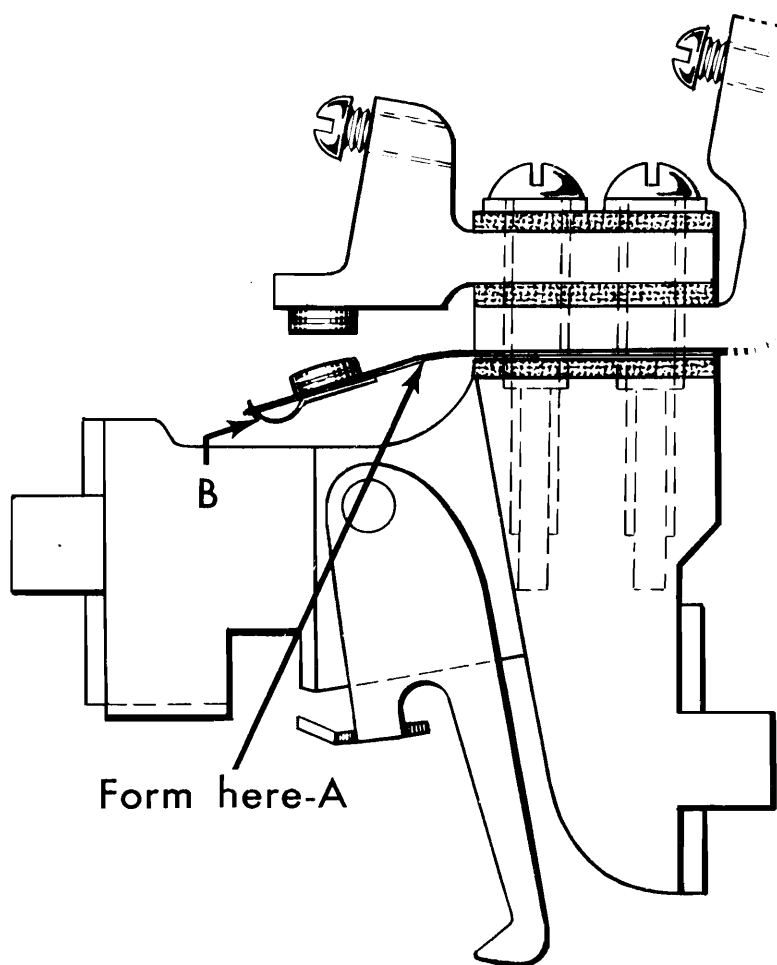

Figure 10. Latching Plunger Circuit Breaker, Adjustment 1
1. The lower contact strap should be formed at point A to provide proper tension (Figure 10). At the factory these straps are adjusted so that a force of 160 grams, plus or minus 10 grams, (approximately 6 oz.) applied at the tip of the lower strap, point B, will close the points. To avoid a bouncing condition this tension must be maintained accurately.